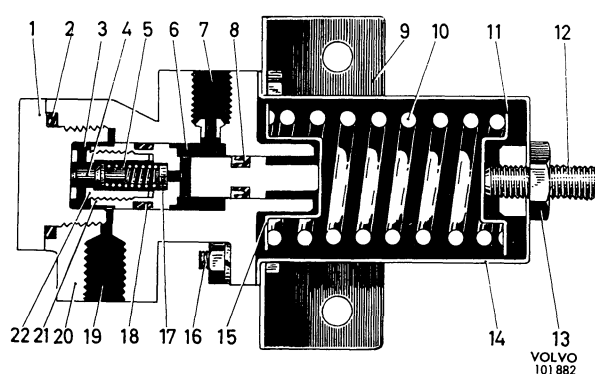
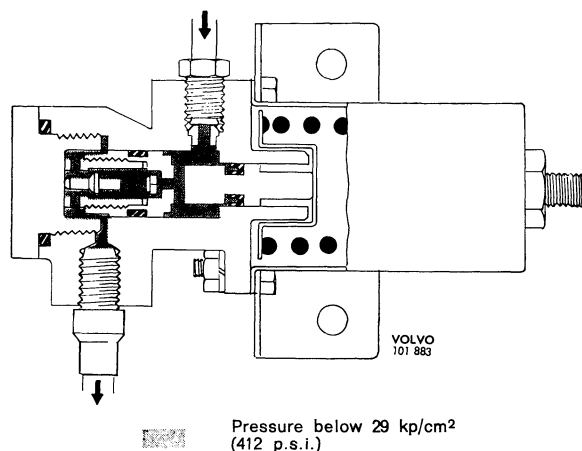

Fig. 5-41. Brake valve, construction
Fig. 5-42. Brake application
A brake valve is connected to each of the rear wheel brake lines, see Fig. 5-6. When the ingoing brake pressure exceeds 29 kp/cm² (412 p.s.i.) a reduction takes place in the valve. The more powerful the pedal pressure, the greater will be the reduction and thereby the larger the difference between the hydraulic pressure in the front wheel and rear wheel cylinders. This results in a suitable distribution of braking force between both pairs of wheels. The construction of the brake valve is shown in Fig. 5-41 and its function is the following.
When the footbrakes are applied, the pressure from the master cylinder is transmitted via the connection (7, Fig. 5-41). The pressure then proceeds through the cylinder (6), the counterbore, past the valves (17) and (4) to cylinder (3) and then on through connection (19) to the rear wheel cylinders, see Fig. 5-42. The hydraulic pressure per unit surface is equal on the different parts of the piston (21), but since its pressure surface is larger in cylinder (3) than in cylinder (6), the force developed will move the piston to the right of the figure. However, this is counteracted by the pressure from the springs (10).
force in cylinder (6) moves the piston to the left so that the valve rod comes up against its stop and opens the valve this causing the pressure in cylinder (3) to increase. Due to the larger pressure surface in this cylinder, the piston is moved to the right again and the valve closes. In this way, the piston assumes a position of balance and the outgoing pressure from the brake valve will be lower than the ingoing pressure, see Fig. 5-42. The difference in these pressures is determined by the different areas and spring tension.
When the brake pedal is released, the pressure in the cylinder (6) falls. The piston (21) is moved to the right by spring (10). When the pressure on the right-hand side of the valve (4) falls so much that the hydraulic pressure on the left-hand side enables the valves to be actuated, the connection between both the cylinders is opened again. As the pressure falls, spring (10) presses the left piston back to its original position where the valve is held in the open position by mechanical means, see Fig. 5-41. The equalizing valve (17) is fitted with control channels which ensure an even flow of pressure through the valve.